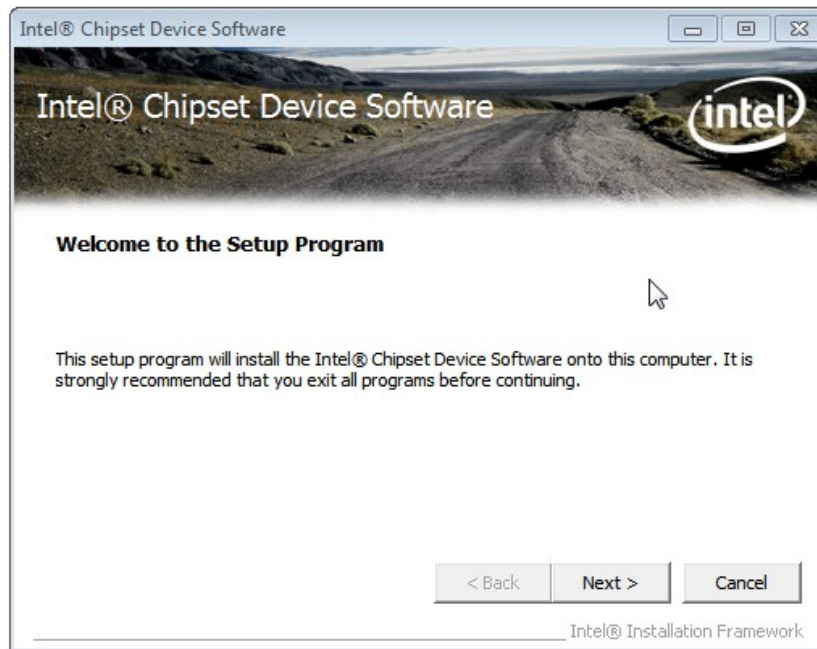

Figure 6-2: Chipset Driver Welcome Screen
Step 4: When the setup files are completely extracted, the **Welcome Screen** in **Figure 6-2** appears.